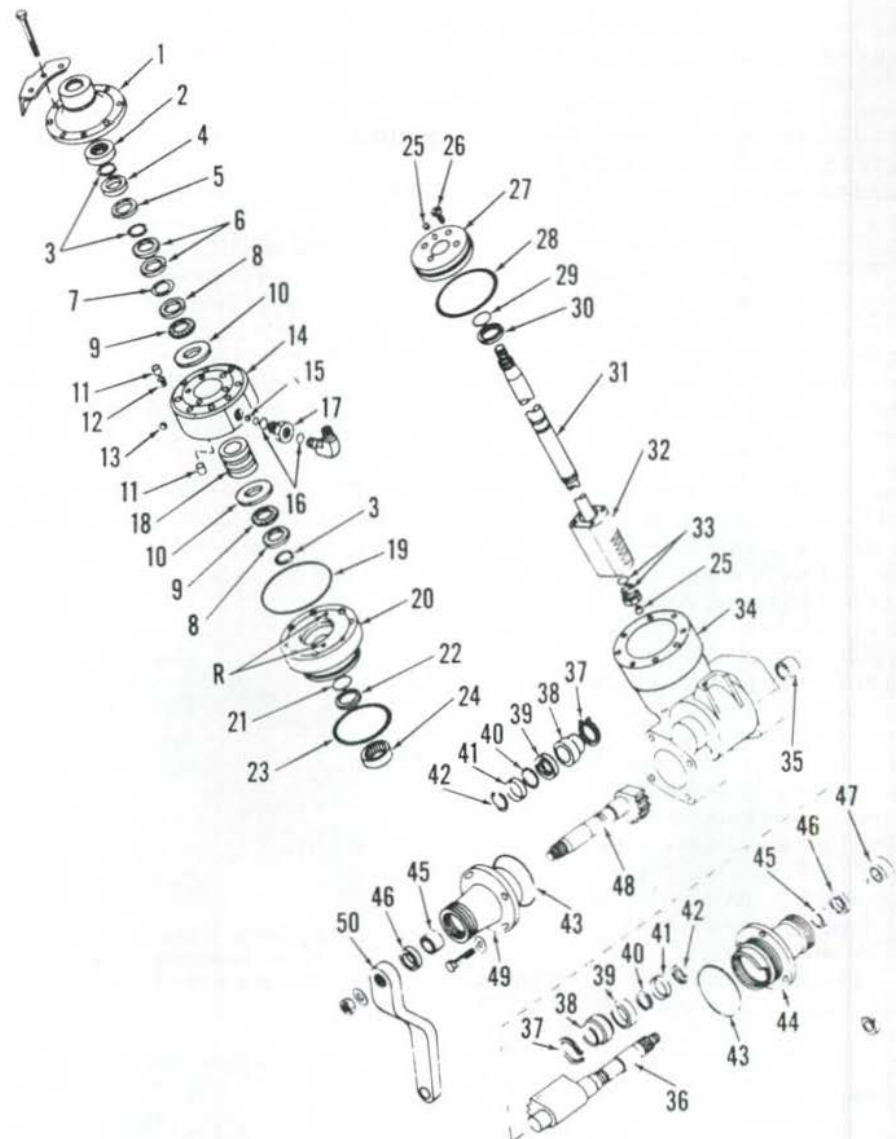

Fig. 12—Exploded view of power steering gear available on all MF230 models, all MF235 models except Orchard end MF245 Vineyard models.
12. OVERHAUL. To overhaul the removed unit, unbolt right side pinion housing (49—Fig. 12) and remove pitman shaft (48), housing (49) and related parts. Turn unit over and drain oil from housing, then unbolt and remove the left pinion housing (44), pitman shaft (36) and related parts. Mark control valve head (1), valve body (14), bearing housing (20) and steering gear housing (34) before disassembly to facilitate correct reassembly. Unbolt and remove control valve housing, head, bearing housing, steering shaft and rack unit. Unscrew piston (27) and rack (32) as a unit from shaft (31), then remove bearing housing (20).
To disassemble control valve and steering shaft, use caution and carefully identify parts as they are removed. Some parts used may be slightly different than shown in Fig. 12. Remove top snap ring (3), washer (4) and seal (5). Remove second snap ring (3) and lift parts (6,7,8,9 and 10) from shaft. Remove valve body (14) from valve spool (18). Be careful not to lose or damage parts of plungers (11). Remove return fitting and adapter (17), being careful not to lose check ball (15).
Inspect all parts for wear or damage and renew if necessary. Install new seal (2—Fig. 12) in head (1) with lip of seal towards valve body and end of seal flush with edge of housing bore. Press new bushings (35 and 45) into housings until flush to 0.8 mm (1/32 inch) below flush with outer edge of bore. Lips of seals (46) should face inward. Some models use a washer and snap ring to retain seals (46) in housings. When renewing "O" rings (21 and 29) and seals (22 and 30) in bearing housing, be sure "O" rings are installed under the seal rings.
to place. Install washer (4—Fig. 12) with chamfer down over snap ring. Install top snap ring (3). Remove piston and rack from shaft.
Assemble parts (37, 38, 39, 40, 41 and 42—Fig. 12) onto pitman shafts before installing shafts into pinion housing. Adjust thickness of shims (40) as necessary to remove all end play from bearing (39).
Adjust gear backlash as follows: Rotate the right pinion housing (49—Fig. 12)